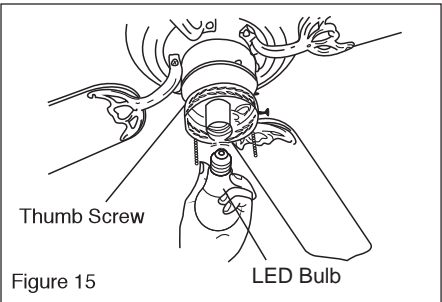

Figure 15
- Install an LED bulb (max. 9.5W, medium screw base) to the lampholder (Figure 15).